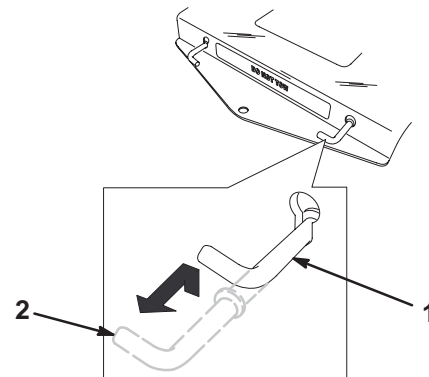

Figure 14
- Pull the two bypass levers up and push them until the washer on the rod passes through the slot. Push the levers down to lock them in place (Fig. 14).
Pull each bypass lever up and pull them completely out. Push the levers down (Fig. 14).